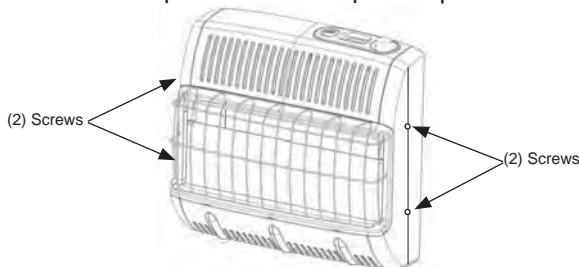

Figure 6
1. Remove (4) screws total there are (2) screws on either side of the heater (Figure 6).